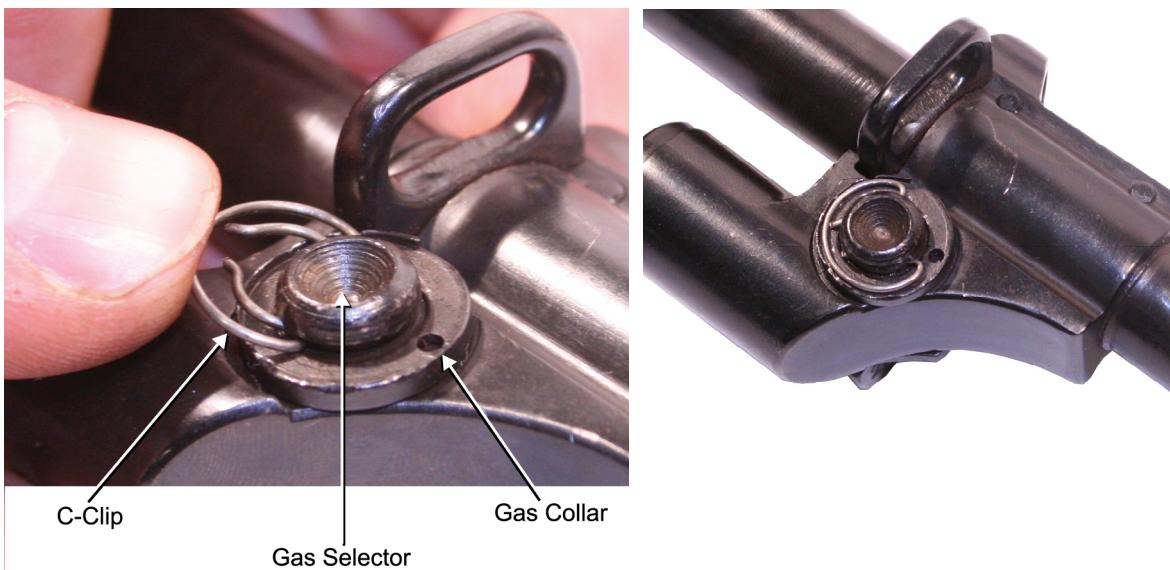

Figure 77. Installing the C-Clip and the C-Clip Installed.
c. Install the C-clip on the left side of the gas block by pushing the open end of the C-clip against the end of the gas selector until it is seated around the end of the gas selector. Refer to Figure 77.